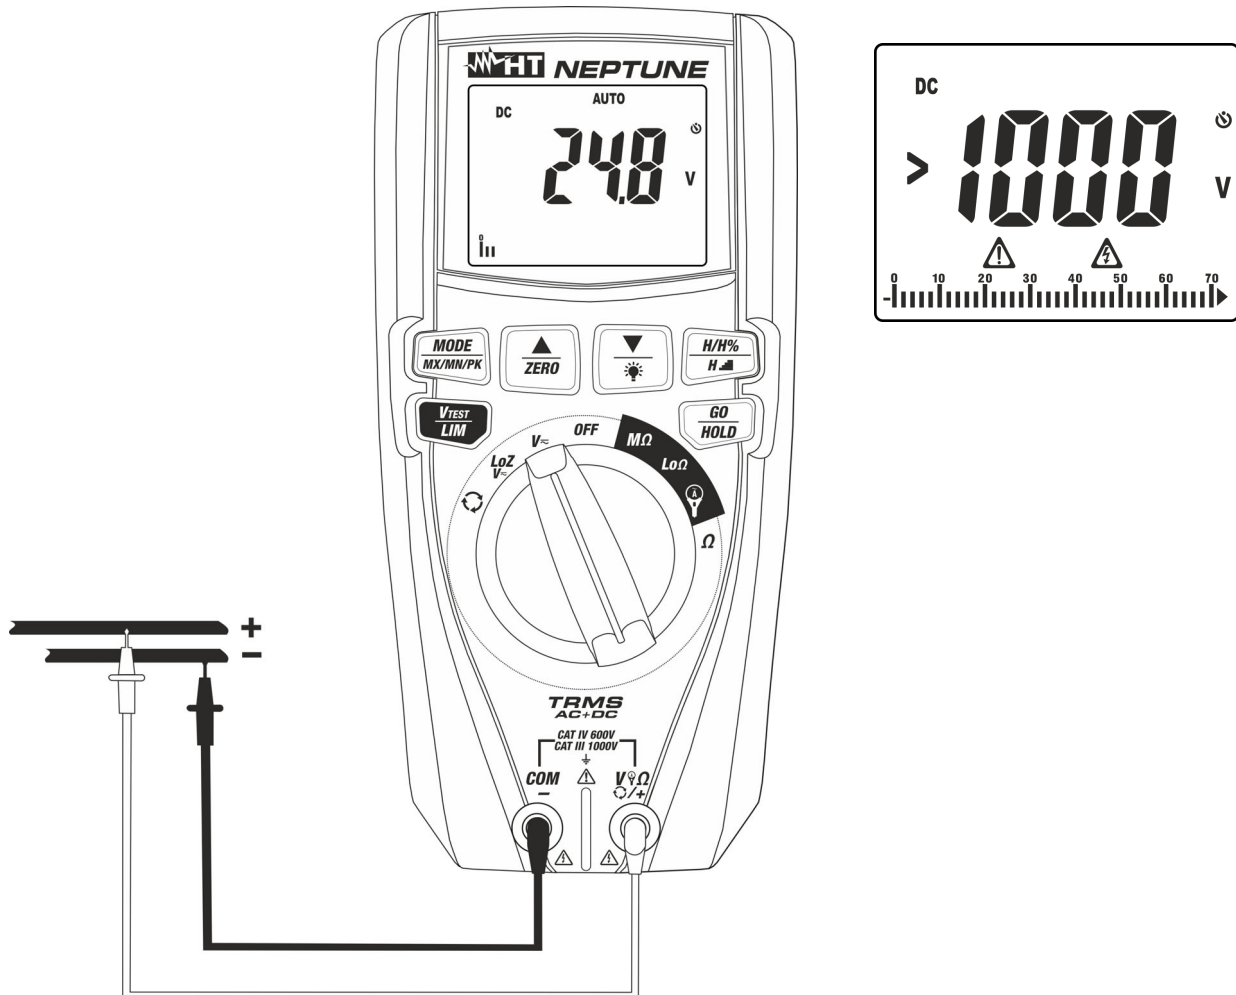
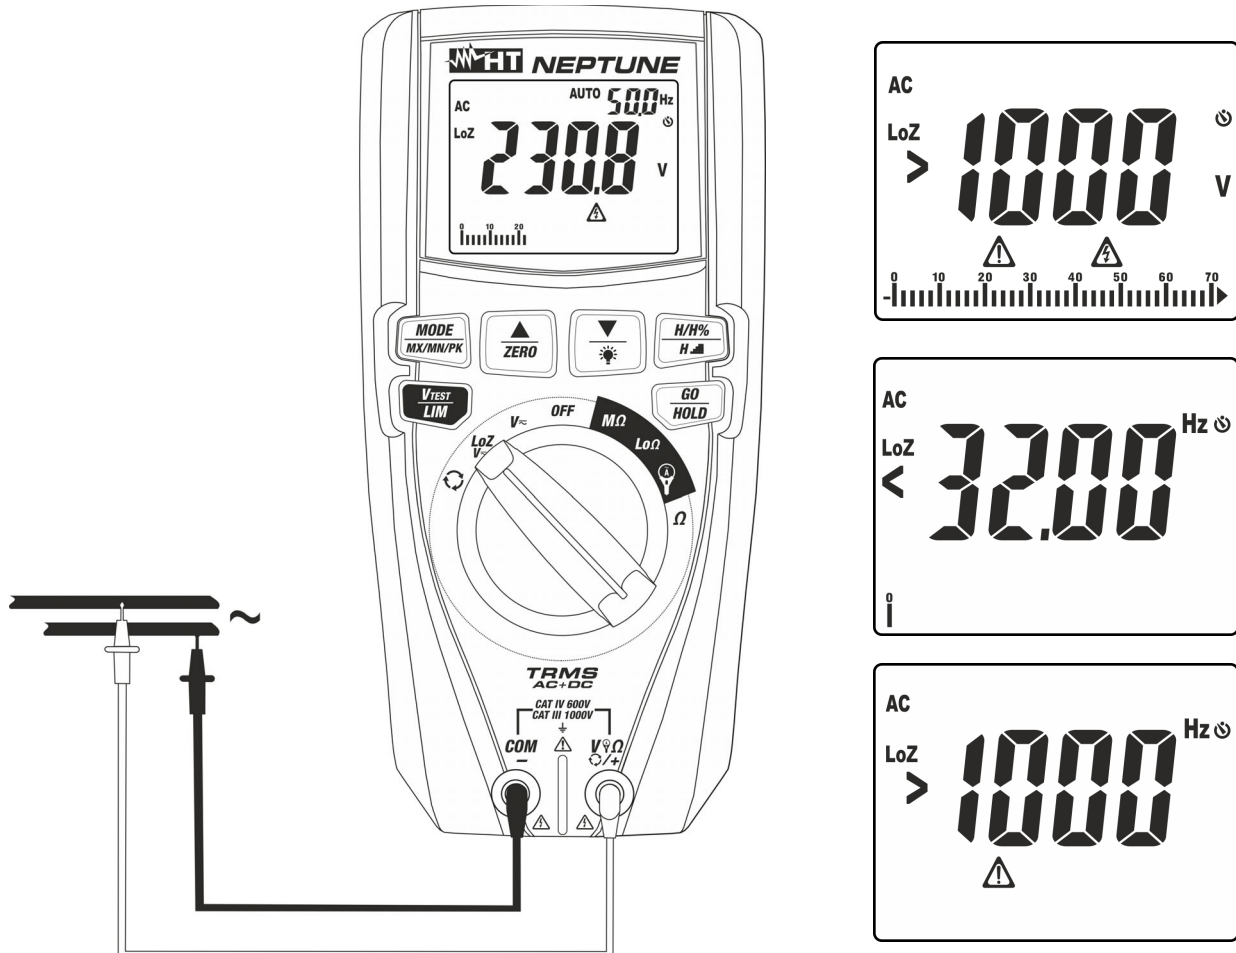

Fig. 6: Use of the instrument for DC voltage measurement
Fig. 8: Use of the instrument for AC/DC voltage measurement with LoZ function
3. Position the red lead and the black lead respectively in the spots with positive and negative potential of the circuit to be measured (see Fig. 6). The display shows the value of voltage.
4. If the display shows the message “>1000V” (see Fig. 6), the maximum measurable value has been reached.
5. When symbol “-” appears on the instrument’s display, it means that voltage has the opposite direction with respect to the connection in Fig. 6.
4. Position the red lead and the black lead respectively in the positions of the circuit to be tested (see Fig. 8) for AC voltage measurement or in the positions with a positive or negative potential of the circuit to be tested (see Fig. 6) for DC voltage measurement. The display shows the value of voltage. On the top of the display on the right side, the value of voltage frequency is displayed. Press key **MODE/MX/MN/PK** to display the value of frequency with a higher resolution.
5. If the display shows the messages "<32Hz" or ">1000Hz" (see Fig. 8), the value of frequency is out of the measuring range **32Hz ÷ 1000Hz**.
6. When symbol "-" appears on the instrument's display, it means that voltage has the opposite direction with respect to the connection in Fig. 6